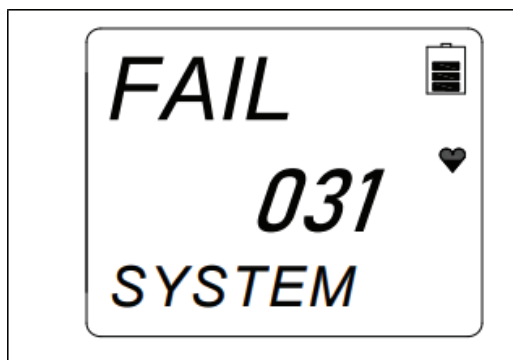

Figure 12
**3.3.6.1** If a system failure alarm occurs, the system failure will display an error code similar to that shown in Figure 12.
**3.3.6.2** If the System Failure error code is anything other than 031, as shown in Figure 12, the COVX cannot be used. Contact Bullard Customer Service as soon as possible.